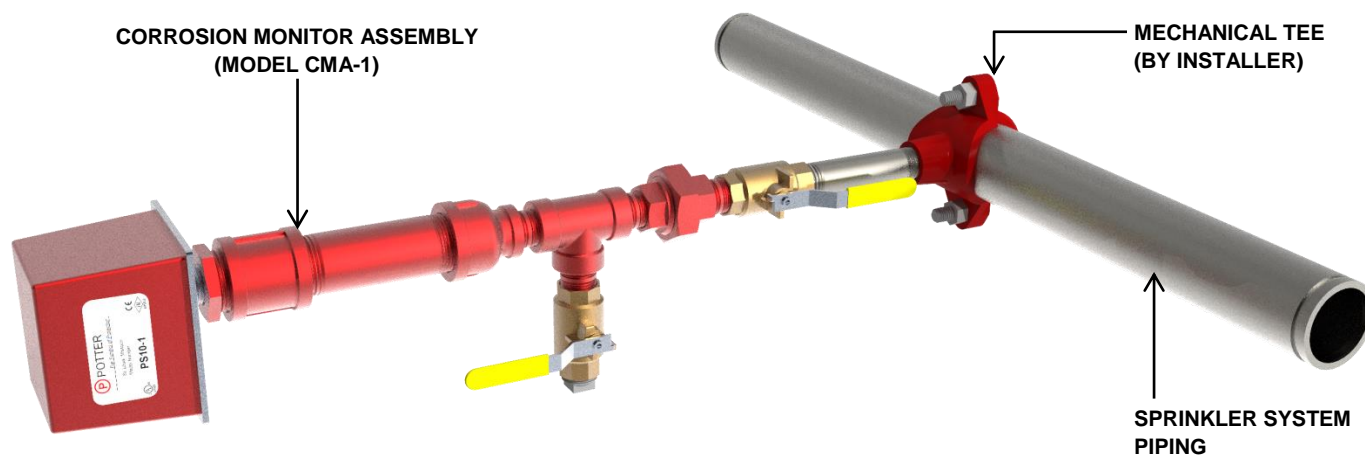

FIGURE 3 – HORIZONTAL INSTALLATION (VERTICAL INSTALLATION NOT SHOWN)
2. Figure 3 shows a typical installation in a horizontal sprinkler system pipe (CMA-1 may also be installed vertically)
4. Drill a hole in the pipe for use of a mechanical tee, as shown in Figure 3. Failure to orient the CMA-1 unit as recommended may result in malfunction.